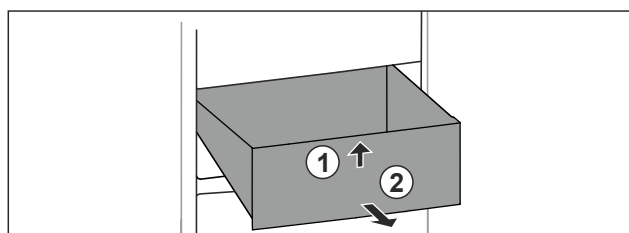

Fig. 96
- Lift up drawer at the front. Fig. 96 (1).
- Remove drawer to the front. Fig. 96 (2).